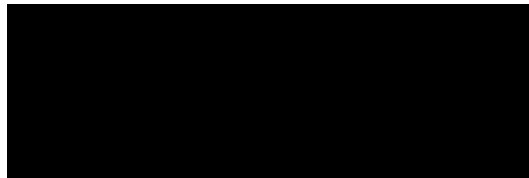

Figure 33 Practice Alphanumeric Commands in High Resolution
- To see the results, enter a sequence terminator. For example, enable the Free Format Form Feed command (,) and print the file. The result should look like the example shown in Figure 33.